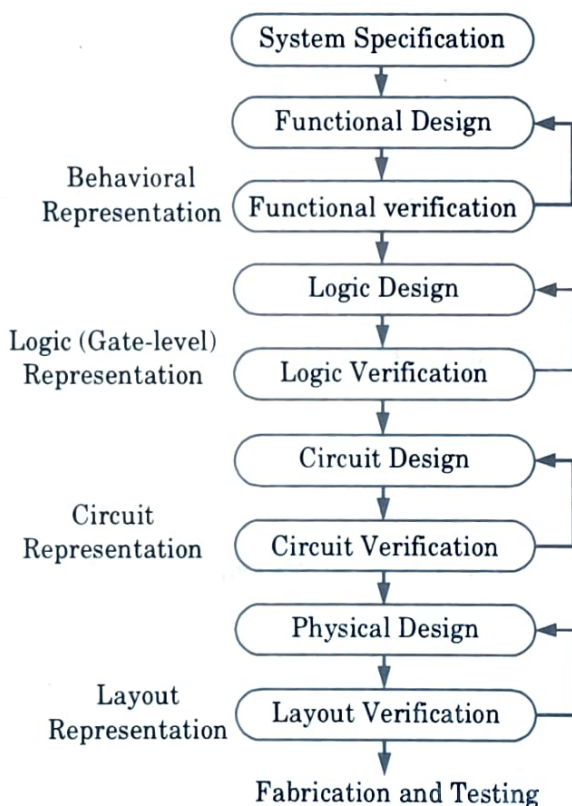

Fig. 1.1.2.
4. The corresponding architecture of the processor is then defined. It is mapped onto the chip surface by floor-planning as shown in Fig. 1.1.2.
7. The last stage involves implementation of leaf and mask generation. Fig. 1.1.2 below provides a more simplified view of the VLSI design flow.